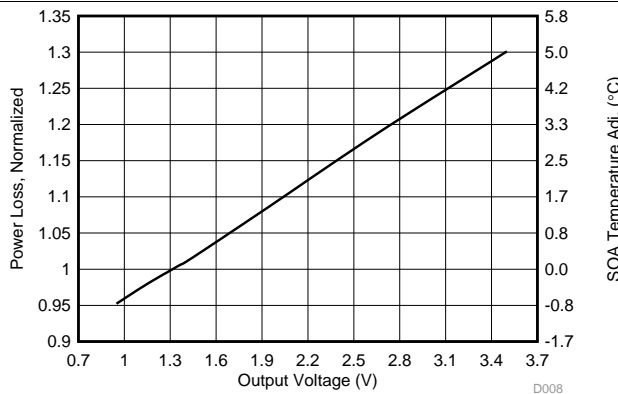

Figure 7. Normalized Power Loss vs Output Voltage
- Normalized power loss for output voltage ≈ 1.01 (Figure 7)
- SOA adjustment for output voltage $\approx 0.17^\circ\text{C}$ (Figure 7)